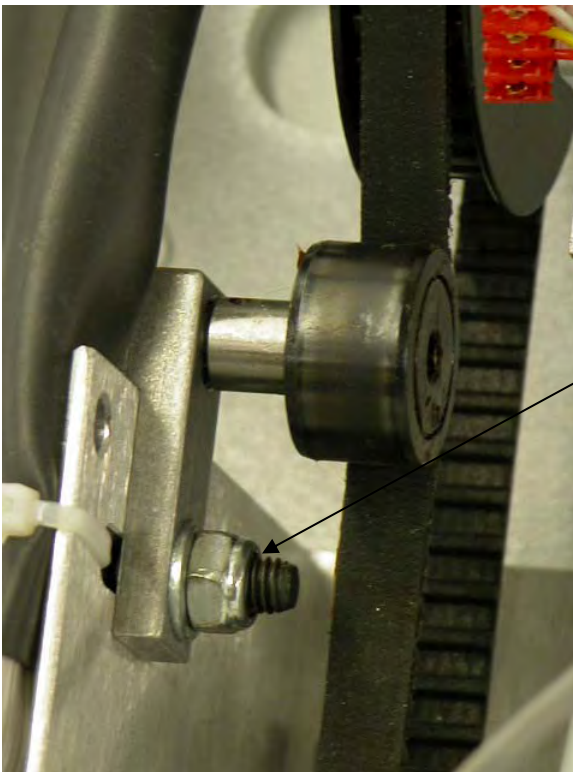

Figure 6.4
- Loosen the idler pulley screw and locknut – the bracket has an elongated hole in the motor housing for idler adjustment. Figure 6.4 (**5mm allen tool and 10mm wrench**)